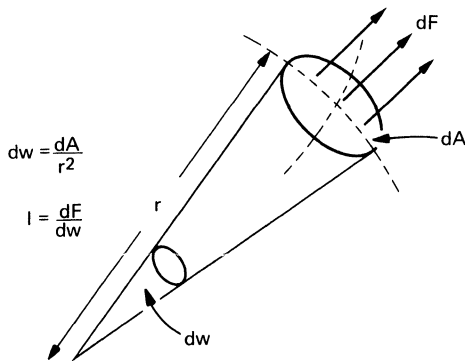

Figure 3. Solid angles and luminous intensity.
Since it is generally not practical to collect all the flux from a light source, and direct it in some desired direction, it is desirable to know how the flux is distributed spatially about the source. If we treat the source as a point (far field measurement), we can divide the space around the source into elements of solid angle: (dω), and inquire as to the luminous flux (dF) contained in each element of solid angle ($\frac{dF}{d\omega}$). The resulting quantity is Lumens/Steradian and is called LUMINOUS INTENSITY (I), (Fig. 3). The unit of Luminous intensity is called the CANDELA, sometimes loosely called the candle, or candle power.